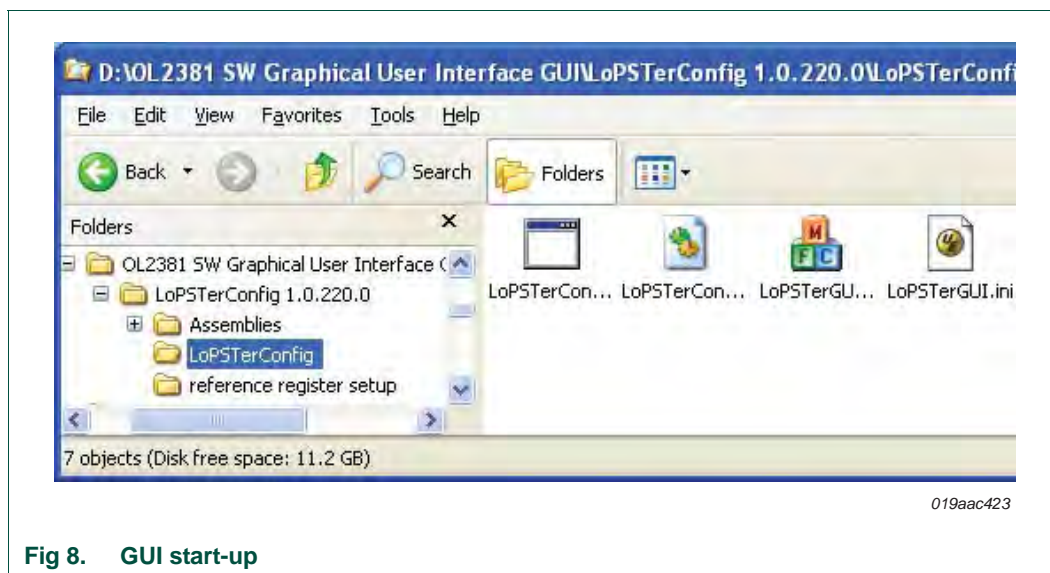

Fig 8. GUI start-up
4. In the folder "LoPSTerConfig", click the file name "LoPSTerConfig.exe" (see Figure 8) and the OL2381\_GUI with all three windows opens.